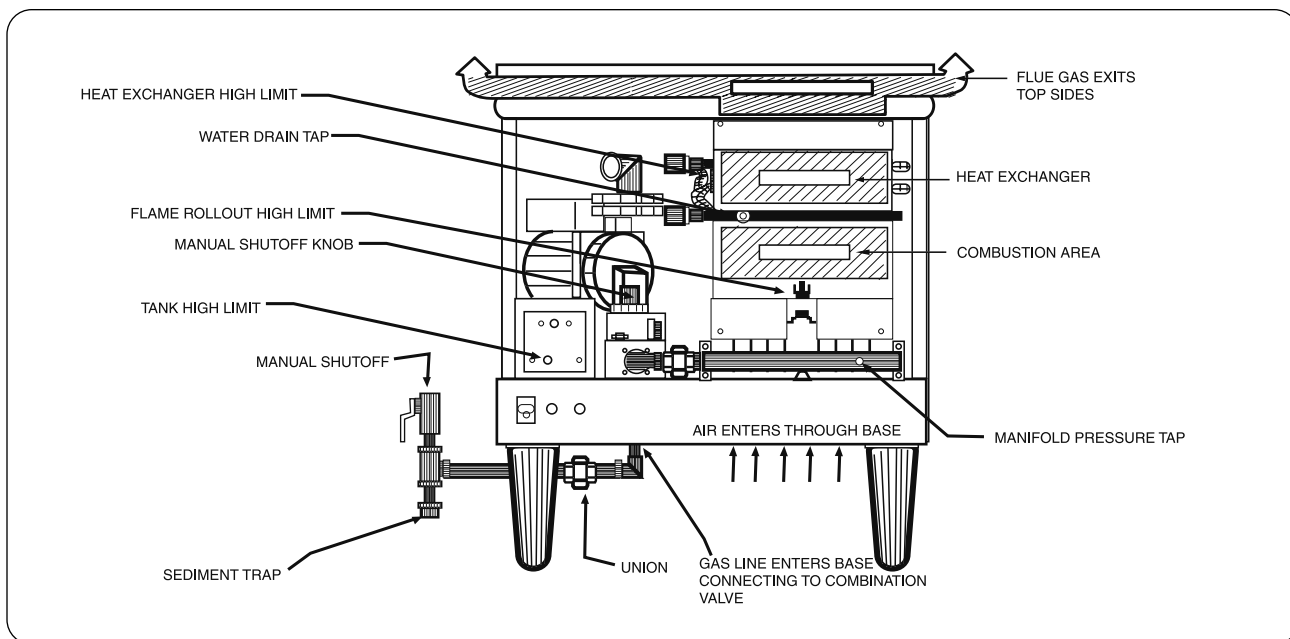

Figure 6. Gas Hook-up and Pressure Tap Location and Piping Diagram.
The gas inlet pipe size is 1/2" NPT pipe thread fitting to the gas valve. Provide an adequate size gas supply line. The line should never be smaller than 3/8" NPT and should follow according to the gas piping diagram below. The fitting is accessed through the bottom of the case. (See Figure 6.)
*NOTE: The internal gas valve is supplied with the heater, the external manual gas valve supplied with unit must be plumbed in by the installer. See **Figure 6** for gas piping diagram.*
See Figure 6 for hook-up location and pressure tap location.